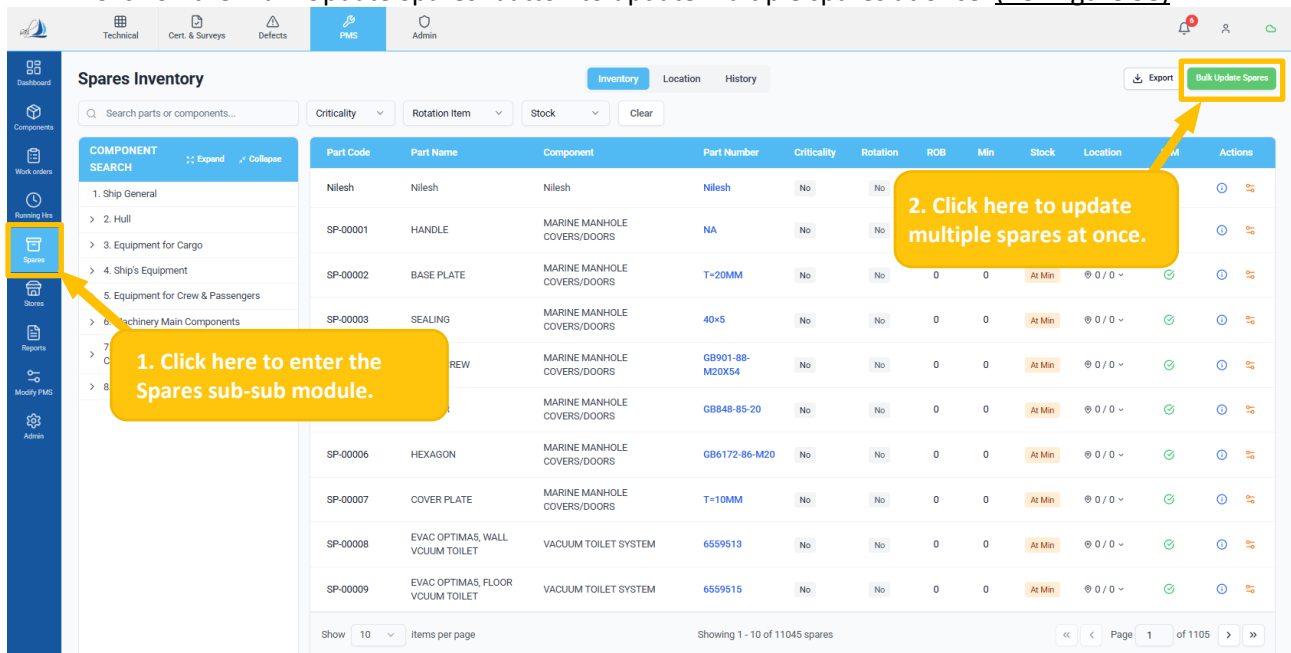

Figure 58
- Click on the 'Spares' sub – sub module. (Ref Figure 58)
- Click on the 'Bulk Update Spares' button to update multiple spares at once. (Ref Figure 58)